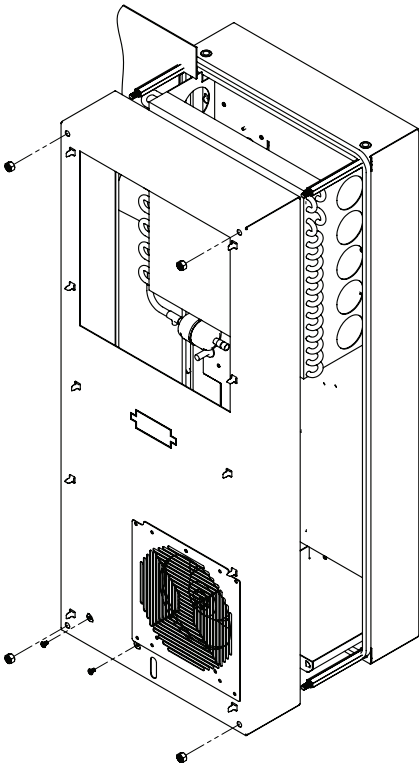

Figure 5
8. Push the rear enclosure half into the mounting cutout and secure it with the four standoffs. See Figure 5 on page 12.